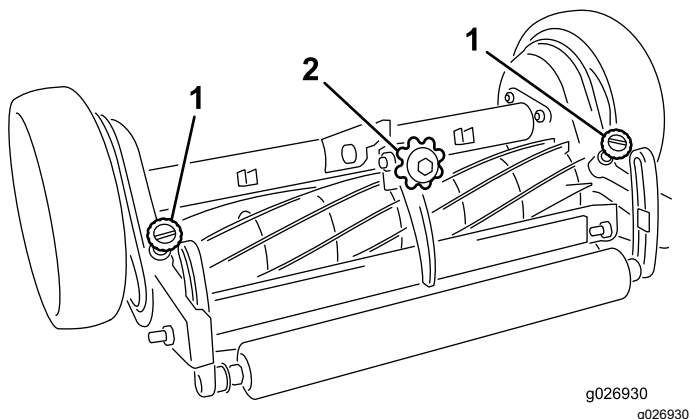

Figure 4
2. Disengage the reel throwout knobs (Figure 4). Carefully spin the reel backward to ensure free movement.
3. While spinning the reel backward, rotate the bedknife adjusting knob counterclockwise (Figure 4) until the bedknife does not touch the reel blades.
4. While spinning the reel backward, rotate the adjusting knob clockwise (Figure 4), one click at a time, until light contact of the bedknife and the reel is noticed or a whispering cutting sound is heard.
6. At the beginning of the cutting day, when the reels are cold, engage the reel throwout knobs (Figure 4). Operate the cutting units for 15 to 20 minutes so that the bedknife and reel reach normal operating temperature; then stop the operation. Next, disengage the reel throwout knobs and spin the reel backward. A whispering sound, not clicking, should be emitted, and this assures the correct adjustment. If a whispering sound is not heard, the bedknife and reel must be readjusted; refer to steps 3–5. By contrast, when the reels are warm from being used, use only steps 1–5 to maintain light contact between the bedknife and the reel.